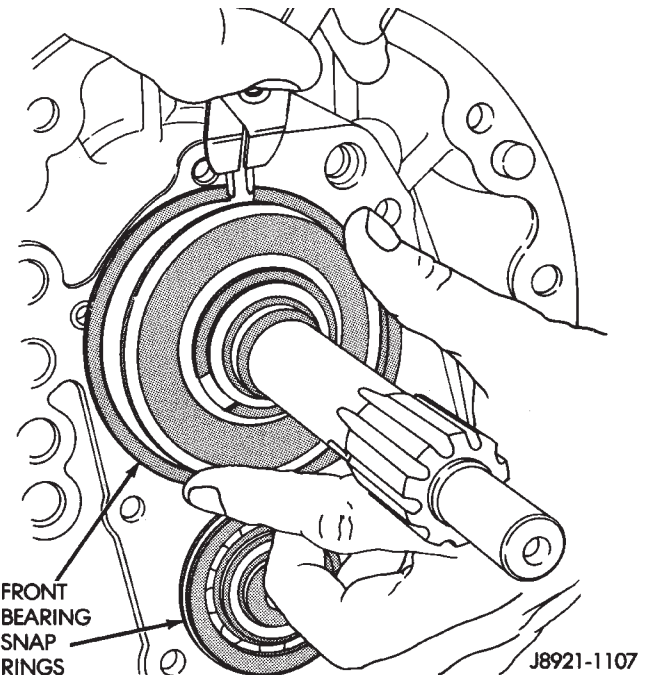

Fig. 35 Install Front Bearing Snap-rings
(4) Install new front bearing snap rings (Fig. 35).